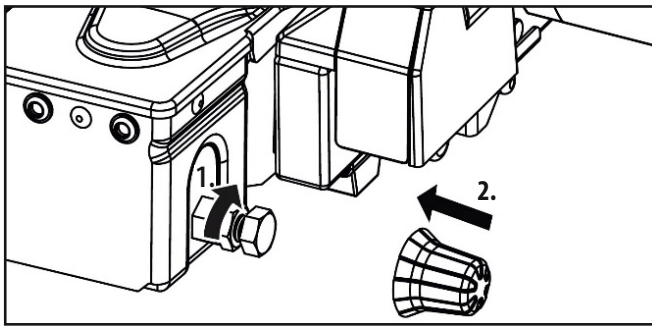

Fig. 14: Adjusting the quick-release fastener
- Tighten the lock nut (Fig. 14).